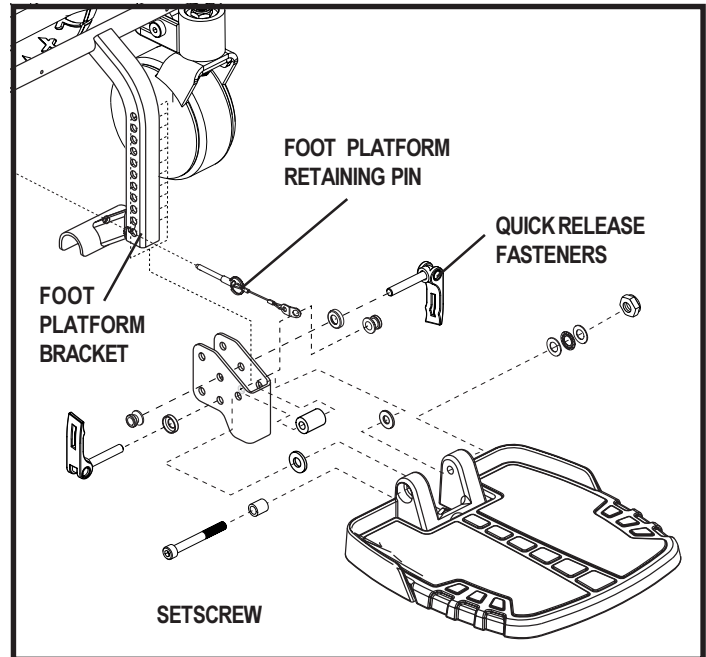
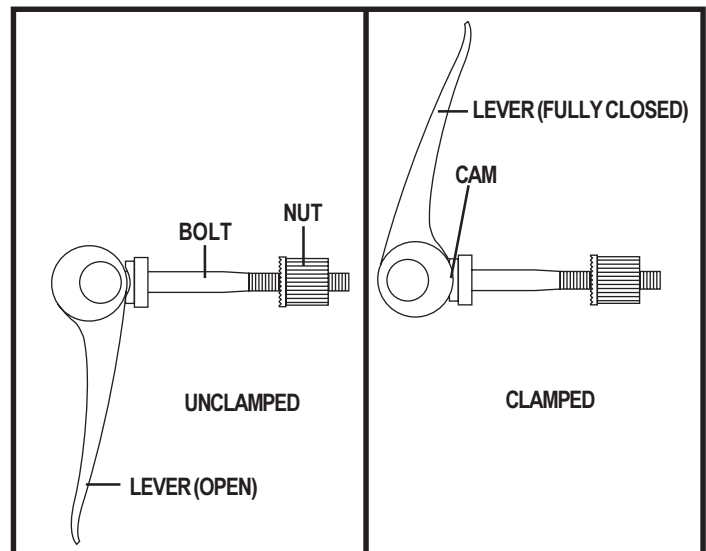

Figure 15. Foot Platform Adjustment
Figure 16. Quick Release Fastener Operation
1. Remove the quick release fasteners from the foot platform bracket. See figure 15.
Quick Release Fasteners: The foot platform is attached to the power base with two quick release fasteners. See figure 15. Each quick release fastener consists of a bolt, a lever, and a nut. See figure 16. The lever has a cam on the end that allows it to clamp into place. The quick release fastener has two states: clamped and unclamped. When the lever is open, the quick release fastener is unclamped. When the lever is closed, the quick release fastener is clamped.
You can adjust the angle of the foot platform with a hex key. See figure 15.